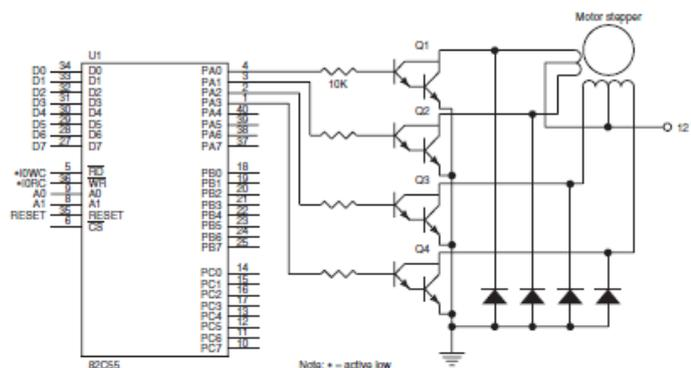

Figure 11-24: A stepper motor interface to the 82C55
- 82C55 provides motor with the drive-signals that are used to rotate the armature in either right-hand or left-hand direction (Figure 11-24).